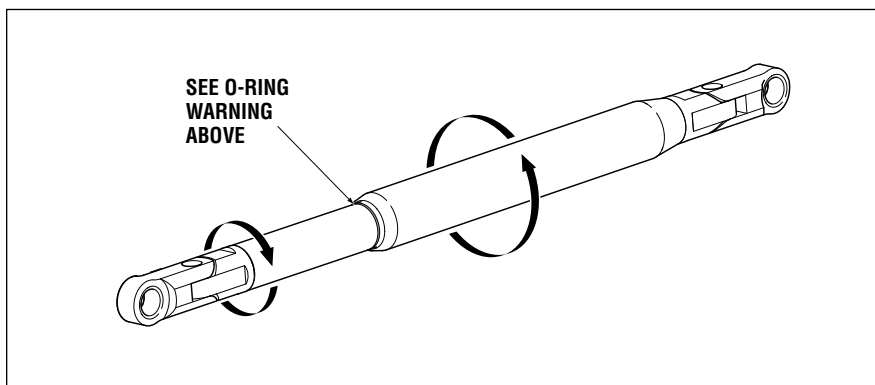

Figure 14.
2. Adjust tiebar to correct distance by rotating as shown in Figure 14.